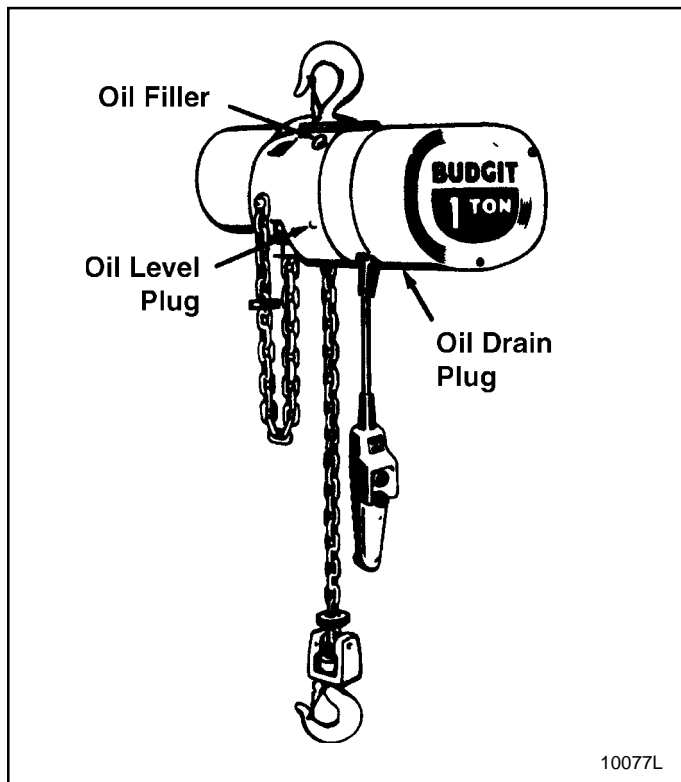

Figure 4-1. Location of Oil Filler and Plugs
4-2. CHANGE GEAR CASE OIL (Fig. 4-1).
(1) Check to see that bolts securing motor to frame are tight. Also check for any visible damage to motor, such as a cracked end bell or dented stator housing. Replace damaged parts.
(2) Check hoist frame for signs of visible damage. If frame shows evidence of fracture, the hoist should be disassembled and inspected for further signs of damage from possible overloading. Replace damaged parts. Also check condition of limit lever.
(3) Check for possible damage to electrical compartment cover. Be sure screws holding cover are tight.
e. **Check Oil Level.** Remove oil level plug (fig. 4-1). If oil level is not even with bottom of tapped hole, add Automatic Transmission Fluid, DEXRON Type, to bring to proper level.